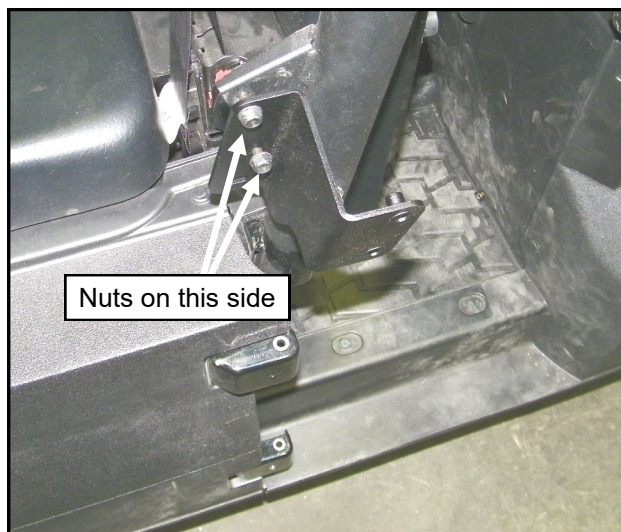

Fig. 5.1 (B-pillar brackets)
**5.1** Per figure 5.1, attach the left B-pillar bracket to the front factory latch mounts on the ROPS with (2) 1/4-20 bolts and nuts, with the nuts toward the outside. Leave bolts loose. Repeat for the right side.